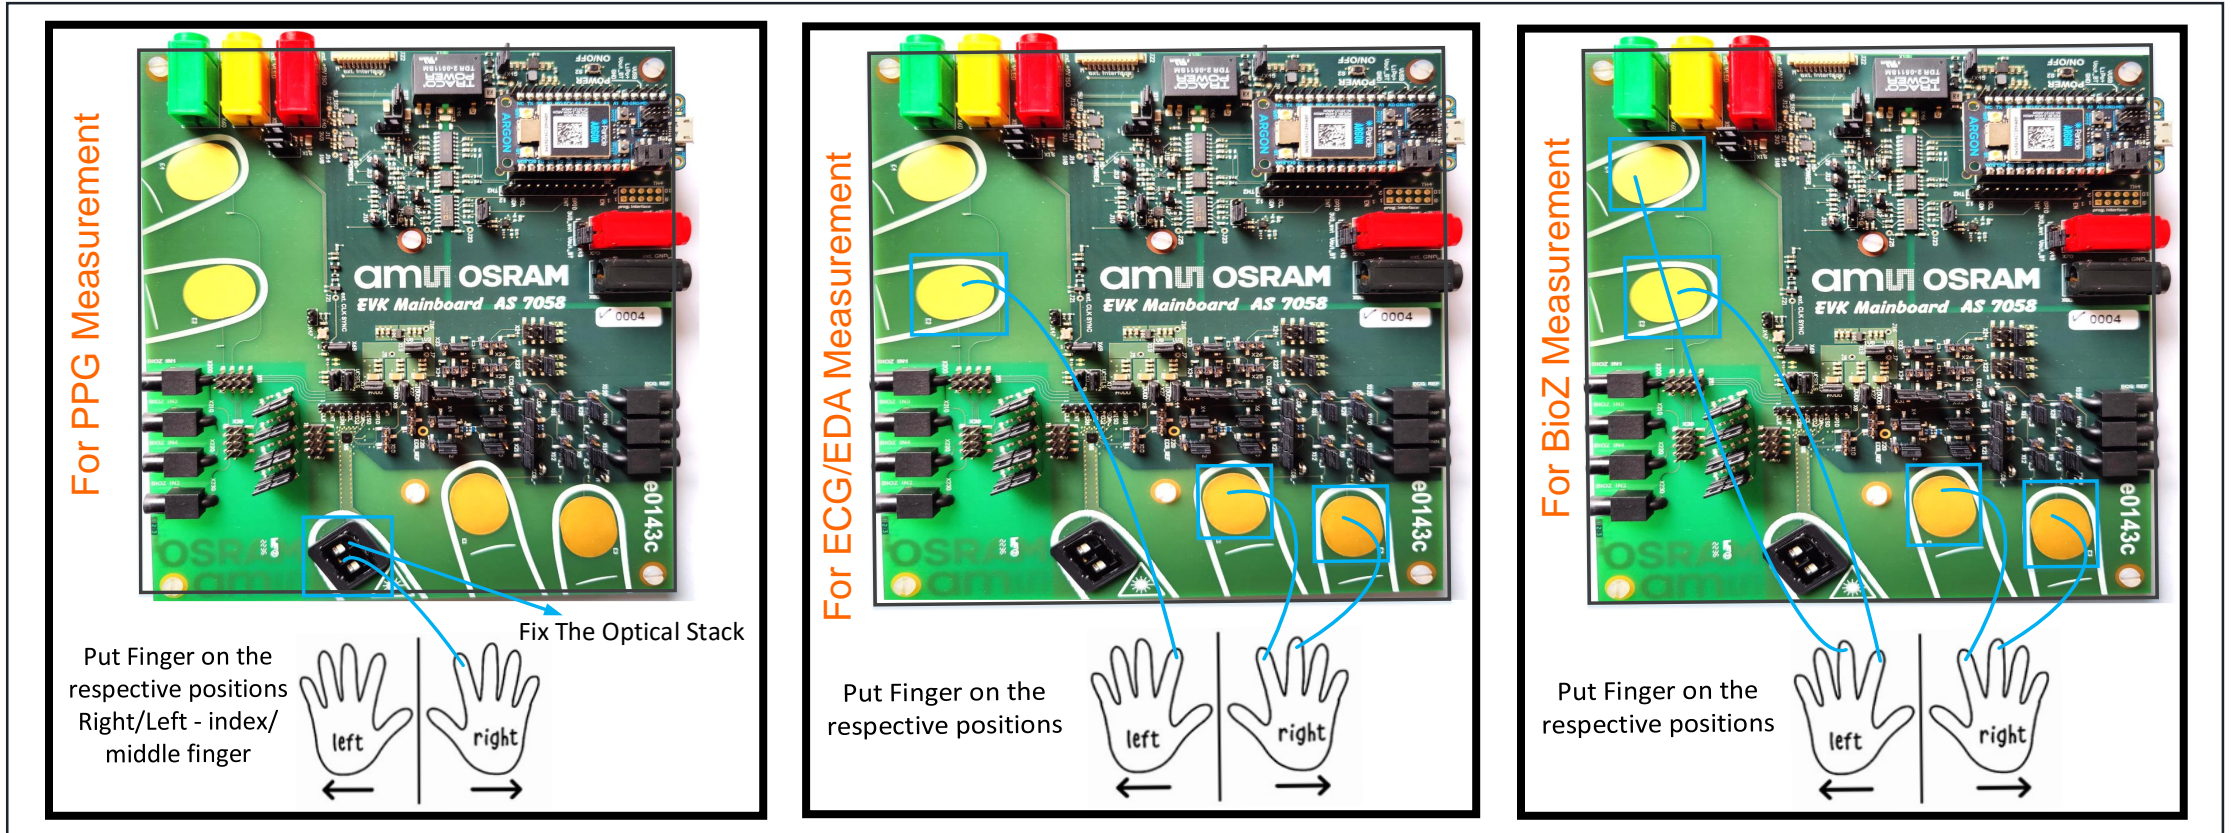

Fig. 13: Finger positioning for PPG, ECG, EDA & BioZ measurements on the AS7058
6. Lastly, position the fingers, as shown in Fig. 13 (page 16).